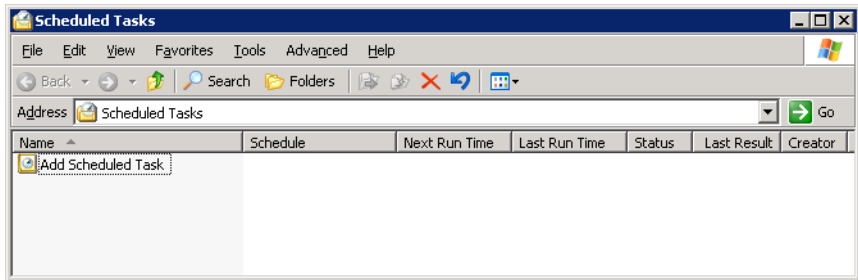

Figure H-2 Scheduled tasks
1. Open the Windows Task Scheduler, shown in figure H-2, by clicking **Start**, click **All Programs**, point to **Accessories**, point to **System Tools**, and then click **Scheduled Tasks**.